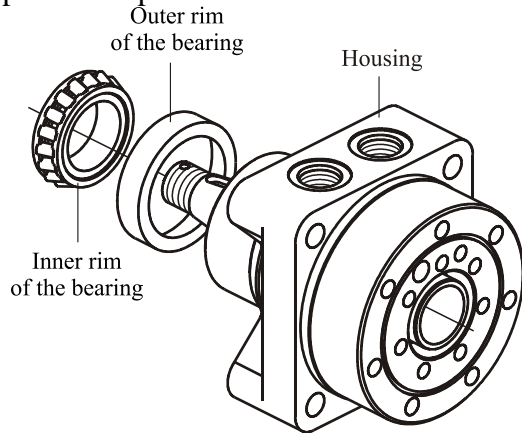

Fig.8
2. Mount shaft in housing. (see Fig.8).
4. Install on the shaft the outer rim of bearing then inner rim of the back bearing as shown on Fig.8.